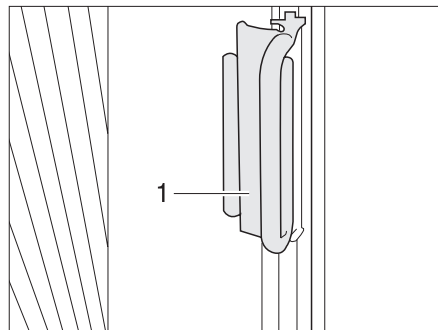

Fig. 9 Handle for folding blackout driver/passenger window
- Use the handles (Fig. 9,1) to slide the Roman shades for the windscreen under covers at the A column and fasten the handle on the cover.